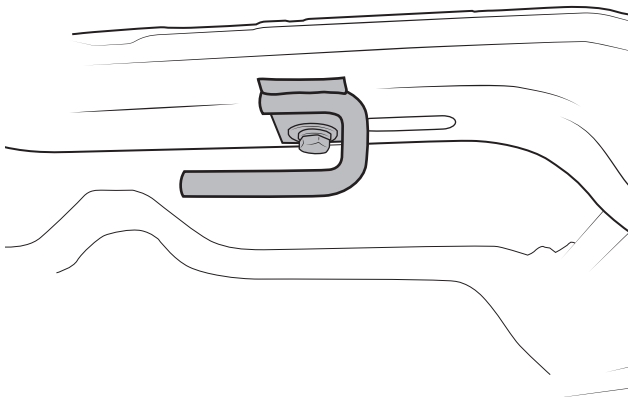

Figure 30
- a. Install the cross member hanger (fig 30).